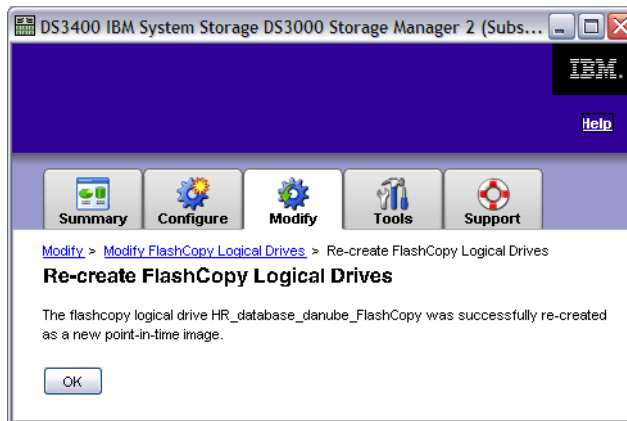

Figure 11-41 Modify - FlashCopy logical drive re-creation successful
4. When the operation is complete, you will see a message similar to Figure 11-41. Click **OK**.